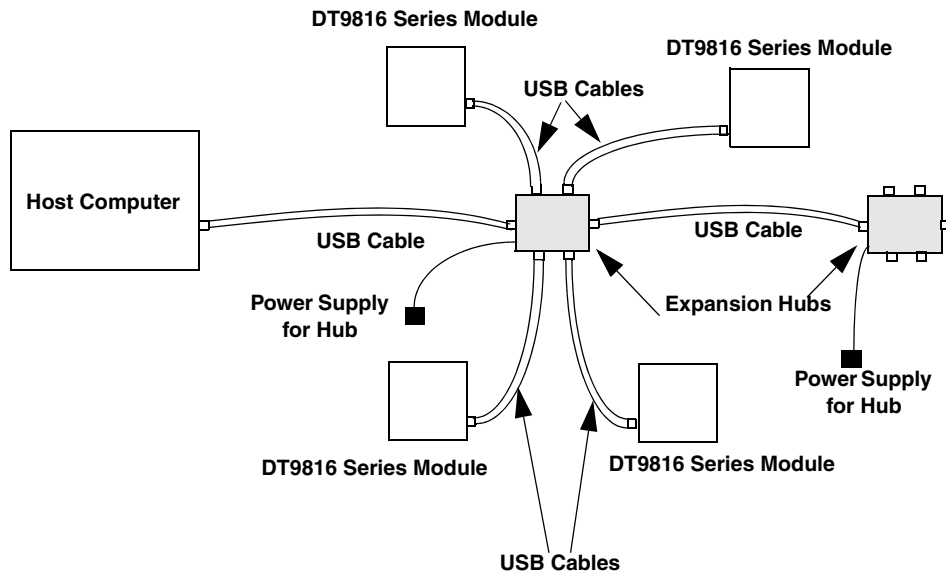

Figure 4: Attaching Multiple DT9816 Series Modules Using Expansion Hubs
5. Repeat these steps until you have attached the number of expansion hubs and modules that you require. Refer to Figure 4.